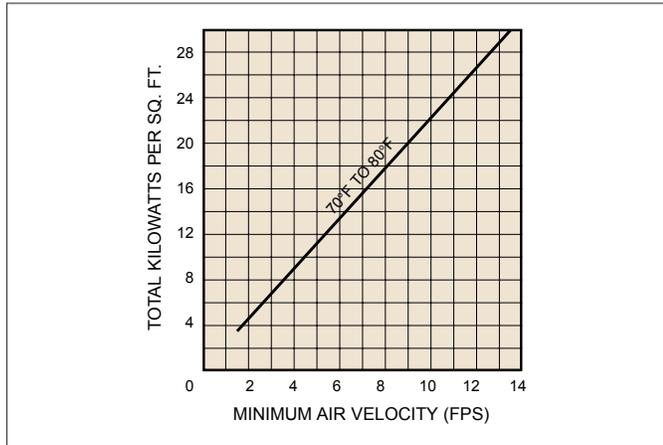

Figure 5 – Air Velocity Requirements
1. Finned tubular duct heaters are approved for horizontal duct installation where the maximum inlet air temperature does not exceed 77°F (25°C) and the maximum rating does not exceed 120 kW. Multiple heaters can be installed in tandem (series) provided that the inlet temperature to any heater section (one heater) is not more than 77°F (25°C) and the air velocity is not less than the requirements of Figure 5.